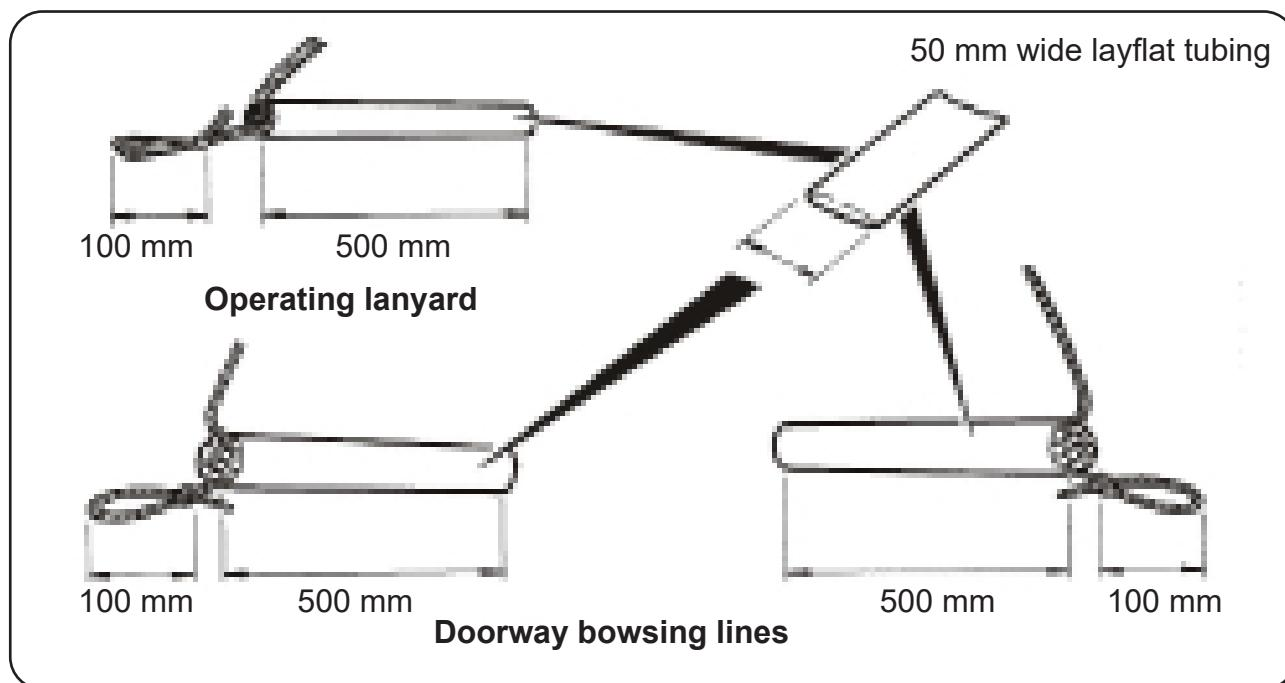

FIGURE 821
- 5.8 If the operating lanyard has been removed from its sachet, it must be repacked according to FIGURE 821.
- 5.9 If the doorway bowsing lines have been removed from their sachet, they must be repacked according to FIGURE 821.
- 5.10 Attach the operating lanyard and doorway bowsing lines sachets to the outside of the container using double sided tape. Refer to FIGURE 821.
Refer to FIGURE 821.